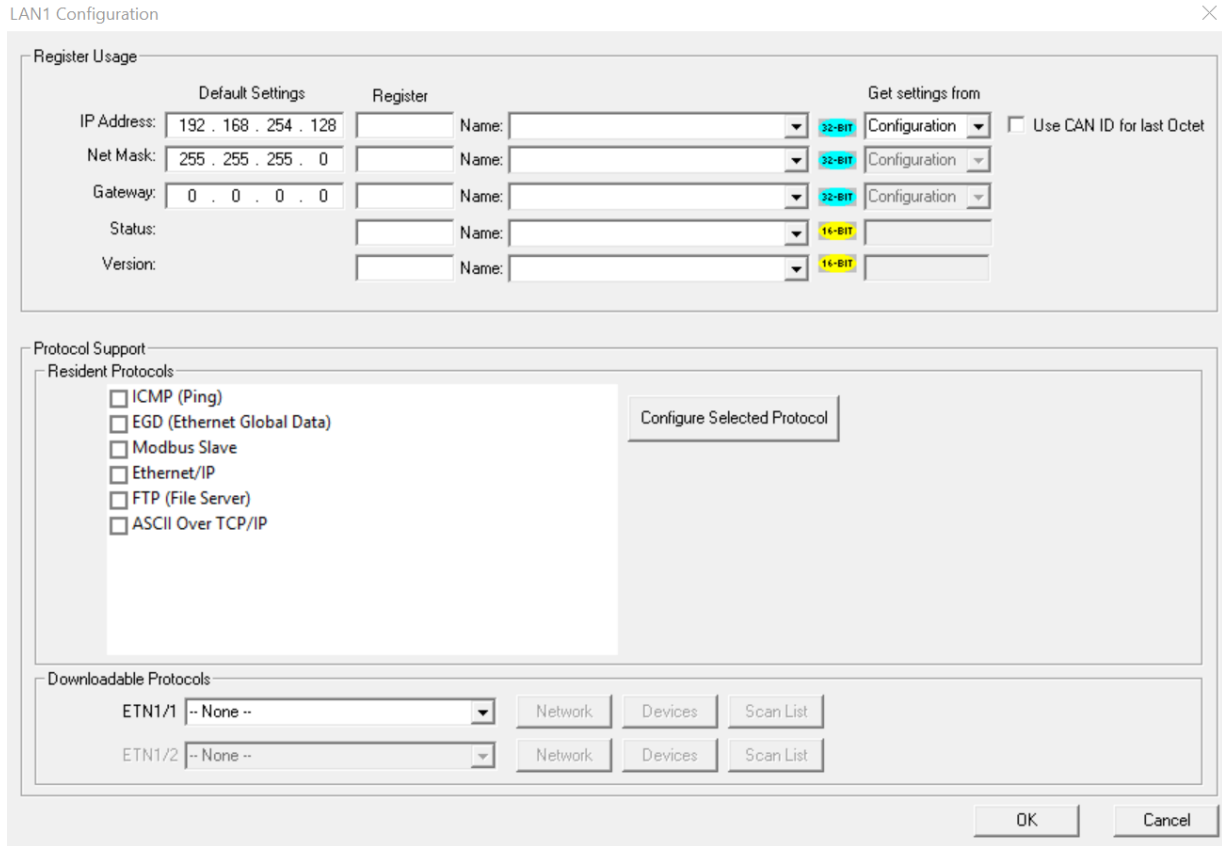

Figure 7.1 - Ethernet Module Configuration
3. Click the **Config** button to the right of LAN1, revealing the Ethernet Module Configuration dialog as shown in Figure 7.1